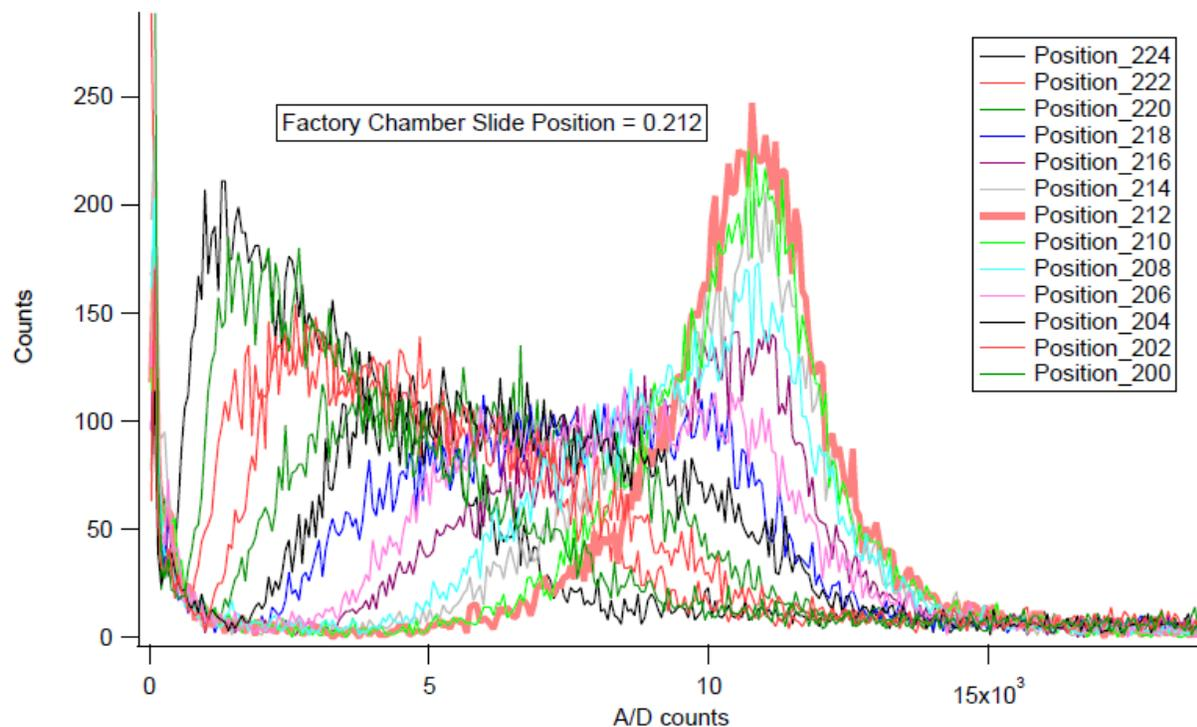

Figure 14: Histogram Response as Chamber Plate is Translated
- 3.31. Following the completion of the chamber slide scan, remove the particle stream and put the filter back on the sample inlet. Using PAPI, or some other data analysis software, process the chamber slide data. Generate a histogram of each of the files collected at the different chamber positions. Figure 14 shows an example of the histogram response as the jet crosses the laser beam. When the position of the jet is optimized in relation to the laser beam, the distribution from that position will be the most symmetric, and have the highest center-peak height (as read on the horizontal axis in this example). See position 212 in Figure 14. As the jet moves to either side of this position, the histogram will be spread out asymmetrically on the left side, indicating a larger number of particles not passing through the center of the beam, and reflecting less of the laser's light. When the optimum position of the chamber is determined, move the chamber to that position as measured by the micrometer. It is recommended that the chamber be moved out beyond the optimum position and then moved inward with the micrometer to the optimum position. Tighten the chamber locking screws, and, if system performance has been restored, reinstall the side and top panels on the SP2 chassis.